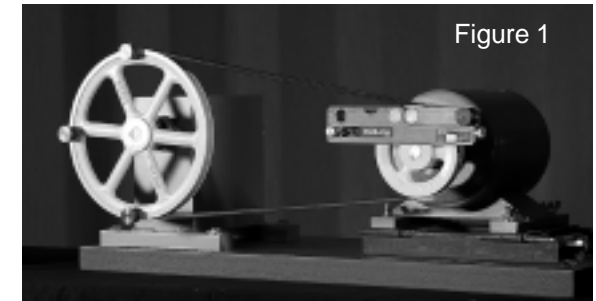

Figure 1
4. Mount the L 1000 housing magnetically onto the smaller pulley (Figure 1). The folding arm with integrated magnet may be extended for added stability whenever needed (Figure 3).